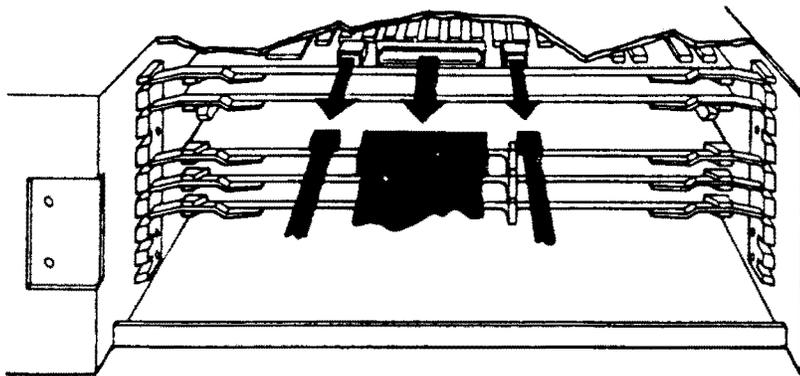

Figure 6-4: Module Cable Removal
7. Disconnect any cables connected to the module (Figure 6-4). Note: the module may first have to be partially withdrawn, before the cable(s) can be removed.